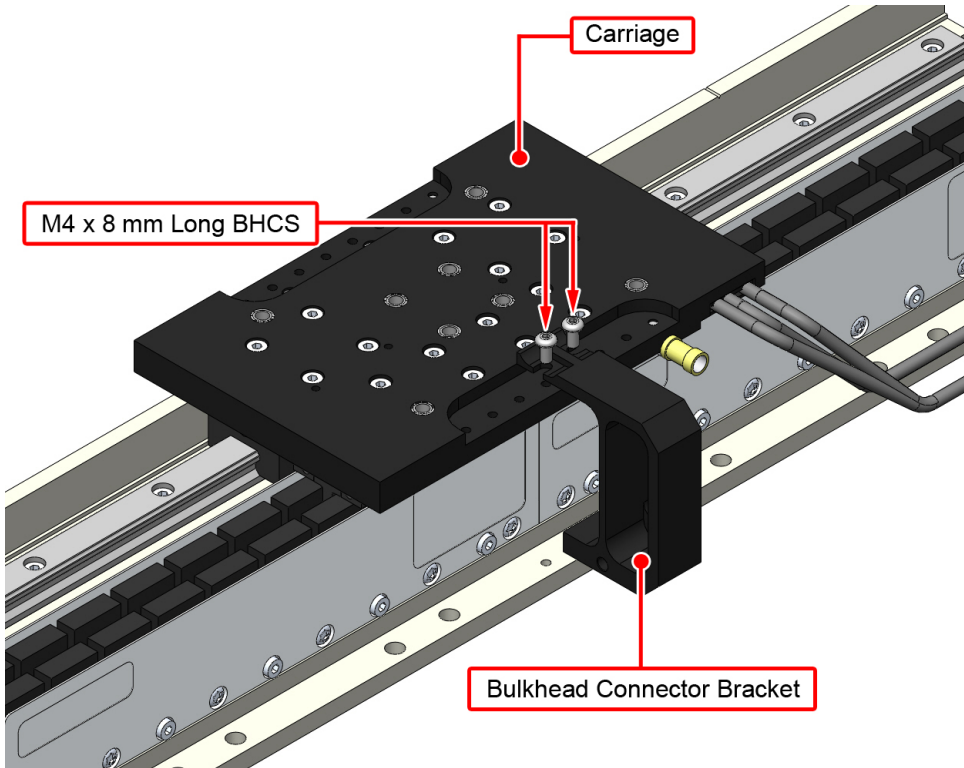

Figure 2-4: Bulkhead Bracket Installation — Attachment of Bracket to Carriage
2. Attach the bulkhead connector bracket to the carriage using the M4 x 8 mm long button head socket cap screws (BHCS) provided (refer to Figure 2-4).